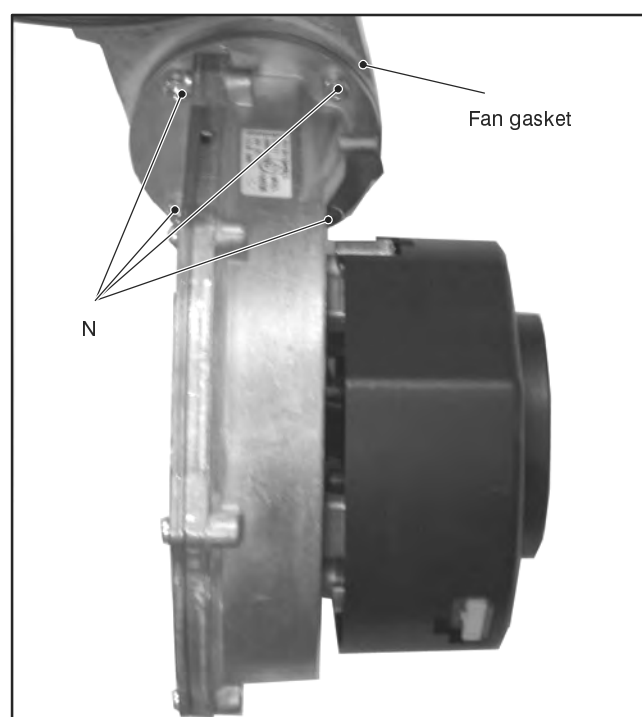

Fig. 17.6
- 2 Unscrew the screws *N* (Fig. 17.6).